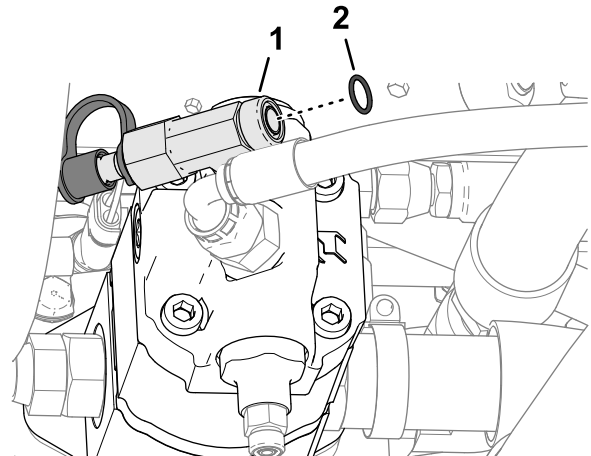

Figure 132
1. Remove the O-ring in the face of the T-fitting at the end the hydraulic pump (Figure 132).
2. Install a new O-ring 12.4/1.8 mm (0.489/0.070 inch) into the groove of the T-fitting (Figure 132).